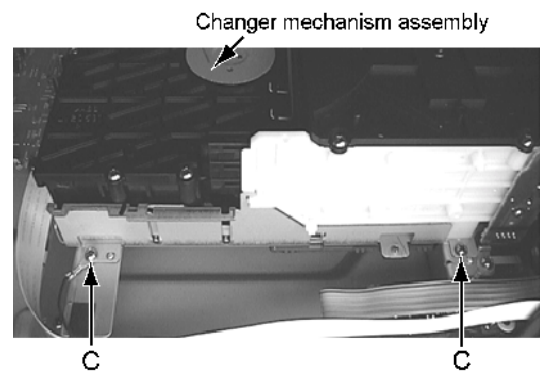

Fig.2
2.1.2 Removing the changer mechanism assembly (see Fig.2~3)